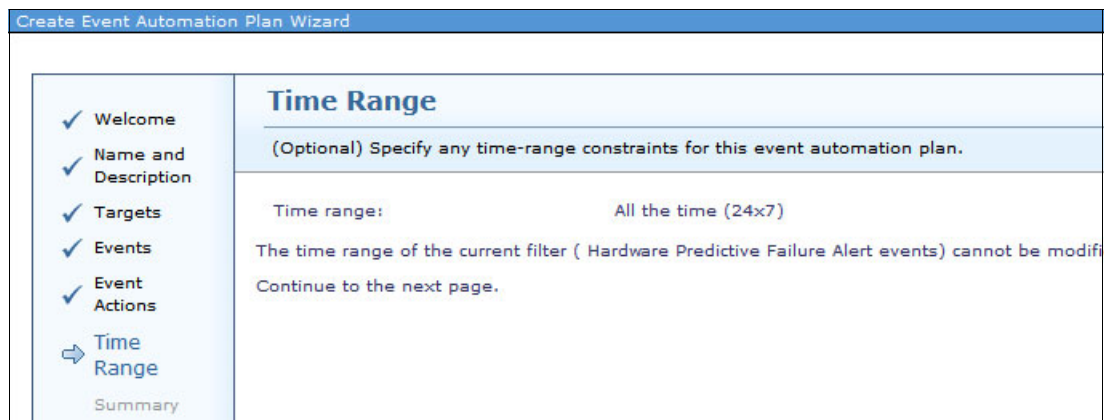

Figure 7-25 Create Event Automation Plan Wizard Time Range window
11. Click **Next** in the Time Range window (Figure 7-25) because time settings cannot be modified for the built-in PFA filter.